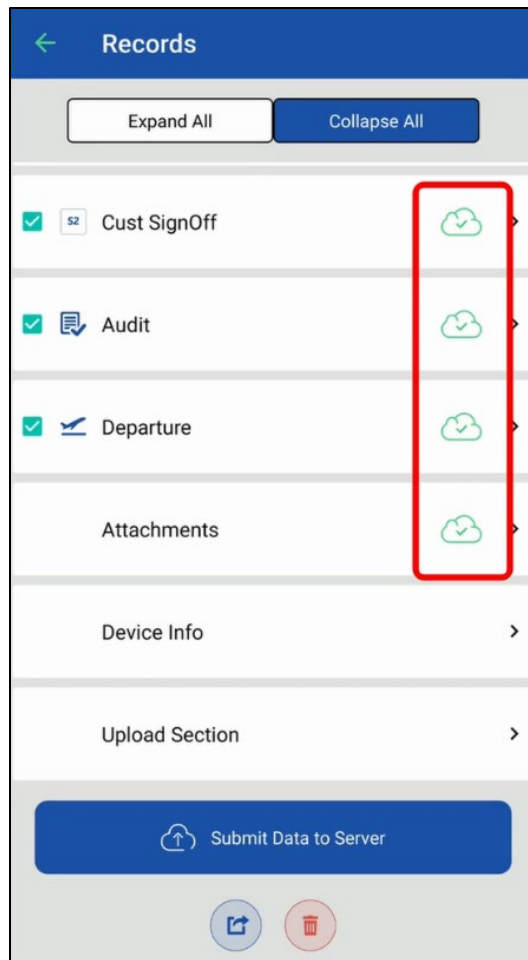

Figure 94: Records uploaded successfully to portal
1. Click **Submit Data to Server** to upload the information to the Installation Portal, as shown in Figure 94.